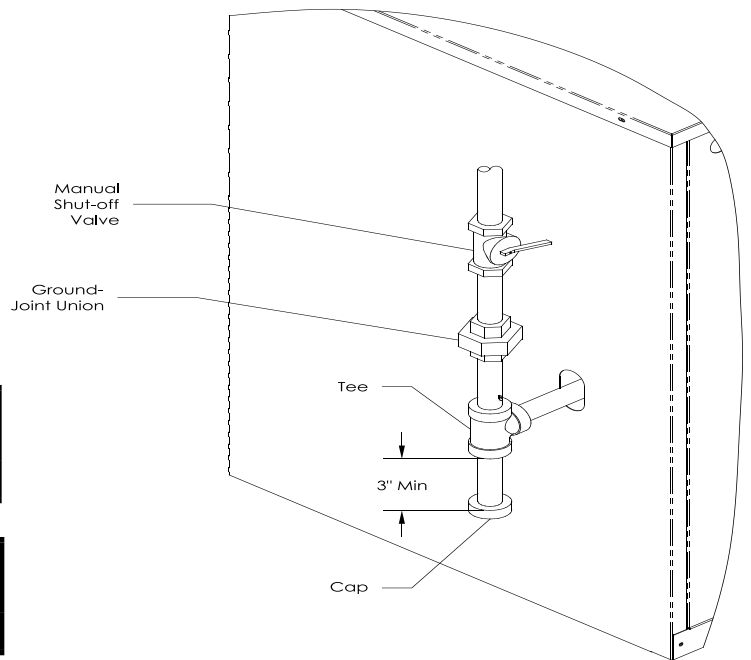

Figure 7-2: Gas Piping
3. Install sediment trap, ground-joint union and manual shut-off valve upstream of boiler gas control valve. See Figure 7-2 (within 6 ft. of boiler).